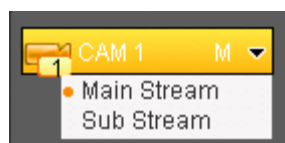

Figure 5-10
Please refer to Figure 5-10 for main stream (M) and sub stream (S) switch information.